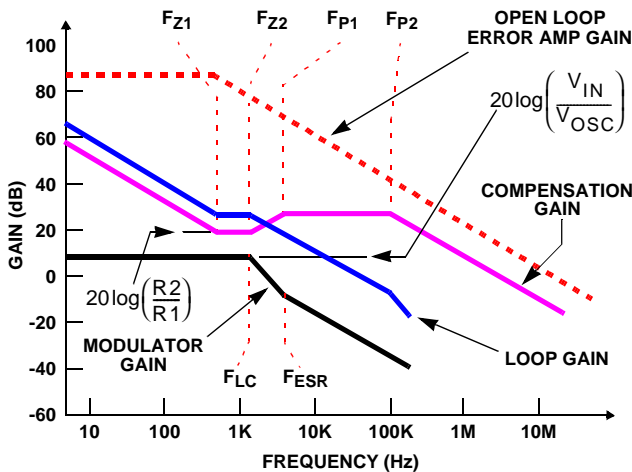

FIGURE 7. ASYMPTOTIC BODE PLOT OF CONVERTER GAIN
Figure 7 shows an asymptotic plot of the DC-DC converter's gain vs frequency. The actual Modulator Gain has a high gain peak due to the high Q factor of the output filter and is not shown in Figure 7. Using the above guidelines should give a Compensation Gain similar to the curve plotted. The open loop error amplifier gain bounds the compensation gain. Check the compensation gain at F_{P2} with the capabilities of the error amplifier. The Closed Loop Gain is constructed on the graph of Figure 7 by adding the Modulator Gain (in dB) to the Compensation Gain (in dB). This is equivalent to multiplying the modulator transfer function to the compensation transfer function and plotting the gain. The compensation gain uses external impedance networks Z_{FB} and Z_{IN} to provide a stable, high bandwidth (BW) overall loop. A stable control loop has a gain crossing with -20dB/decade slope and a phase margin greater than 45 degrees. Include worst-case component variations when determining phase margin.